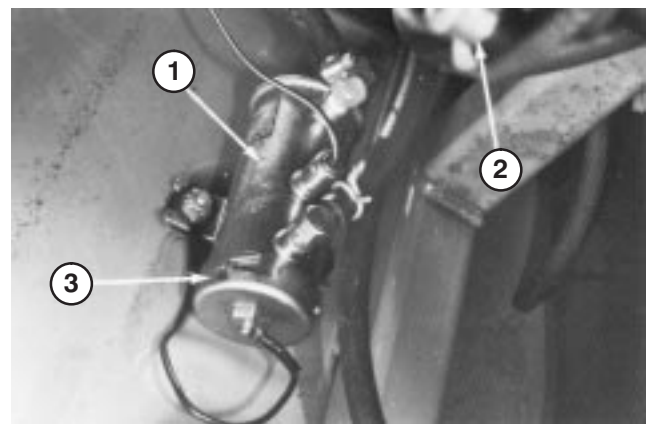
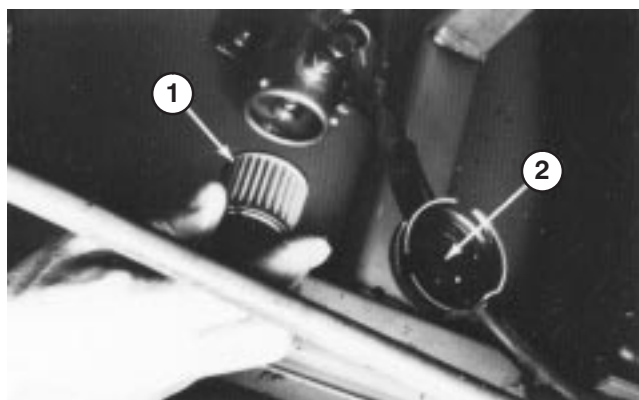

Figure 44
Figure 45
1. Fuel pump is located on inner frame bulkhead to left of drive coupling assembly (Fig. 44).
- 3. Place a drain pan under fuel pump and remove cover from fuel pump with 17 mm wrench (Fig. 44). Take care not to damage wire while removing cover.
- 4. Pull filter out of pump body (Fig. 45).
6. Clean magnet of any residue (Fig. 45), insert filter into body, and install cover (Fig. 44).